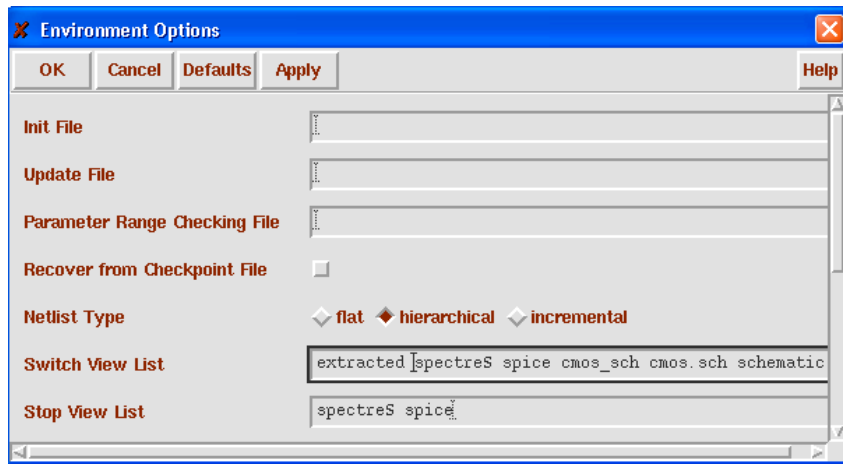

Figure 25. Simulation environment options
2. From the **Setup** menu choose the **Environment** option. A new dialog box controlling various parameters of Analog Artist will pop-up (Fig. 25). The line that we will have to alter is called the **Switch View List**. This entry is an ordered list of cell views that contain information that can be simulated. The simulator (in fact the netlister) will search until it finds one of these cellviews. The default entry does not contain an extracted cellview. We will simply add an entry for extracted cellview before the schematic cellview. As a result of this modification, the simulator will use the extracted cellview of the cell, if one is available.